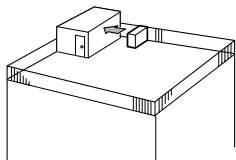

Fig. 2-3
- ① Face the air outlet towards the nearest available wall about 100 cm away from the wall. (Fig. 2-3)